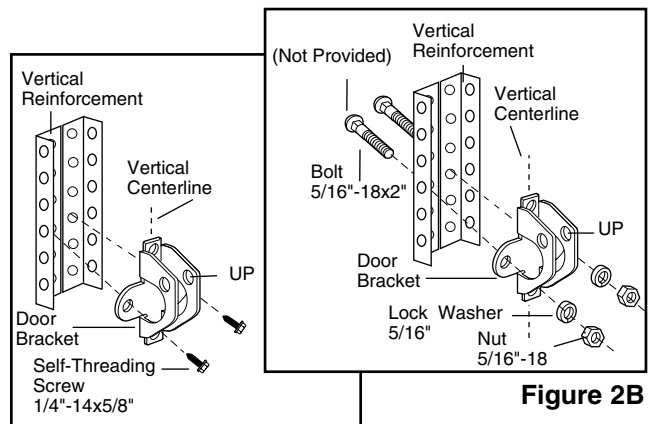

Figure 2A
- Drill 3/16" fastening holes. Secure the door bracket using the two 1/4"-14x5/8" self threading screws. (Figure 2A)